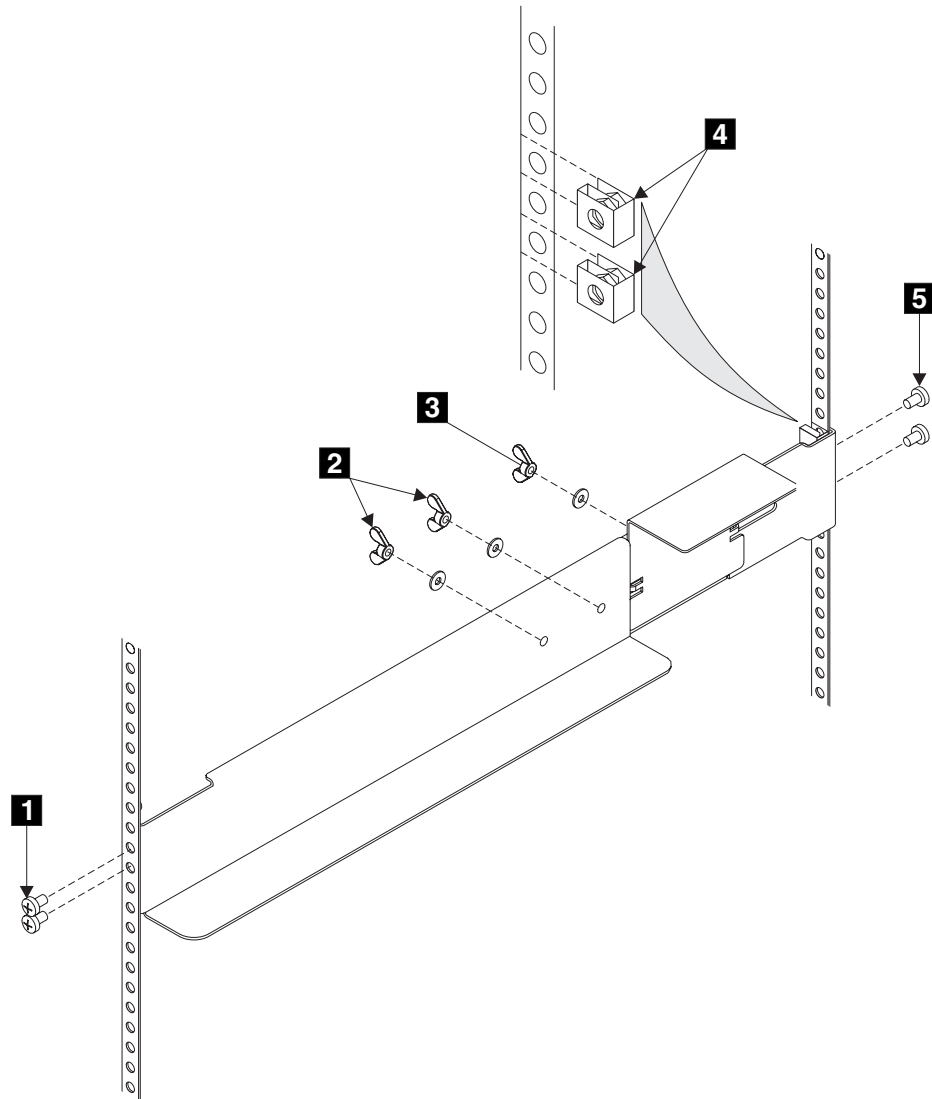

Figure 252. Installing support rails for a 2145 UPS into the rack
1. Attach nut clips **4** to the rack (see Figure 252 on page 525). These nut clips must align with the second and fourth holes of the support rail flange.